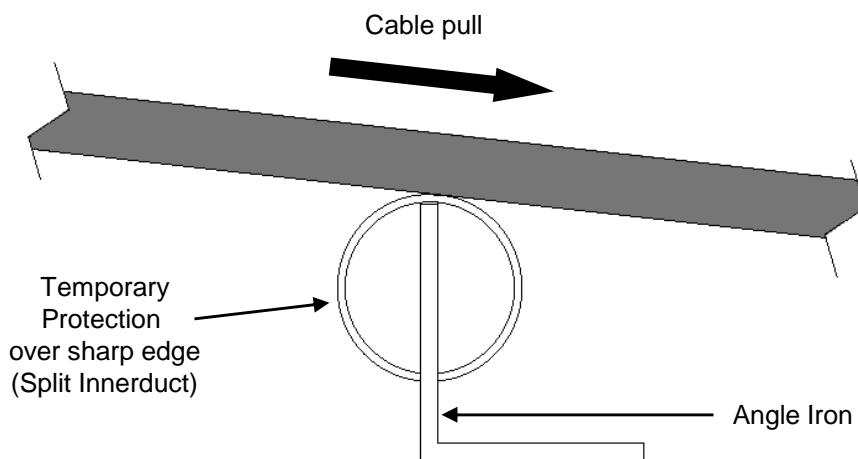

Figure 6
11.5 TP2 tube cables must never be pulled over sharp edges such as ladder rungs, angle iron, and so forth. Some type of hard and rounded temporary protective covering (e.g.: Split Innerduct, a Roller Wheel, a temporary Waterfall or Bridge product, etc.) must be secured over these sharp points if there is any chance the tube cable will come in contact with them during the installation effort. Additionally, ensure the protective devices are firmly attached over these edges so they will not be pulled loose as the tube cable moves across it. If the tube cables will remain on these sharp points, install a permanent Waterfall or Bridge product. **See Fig. 6.**